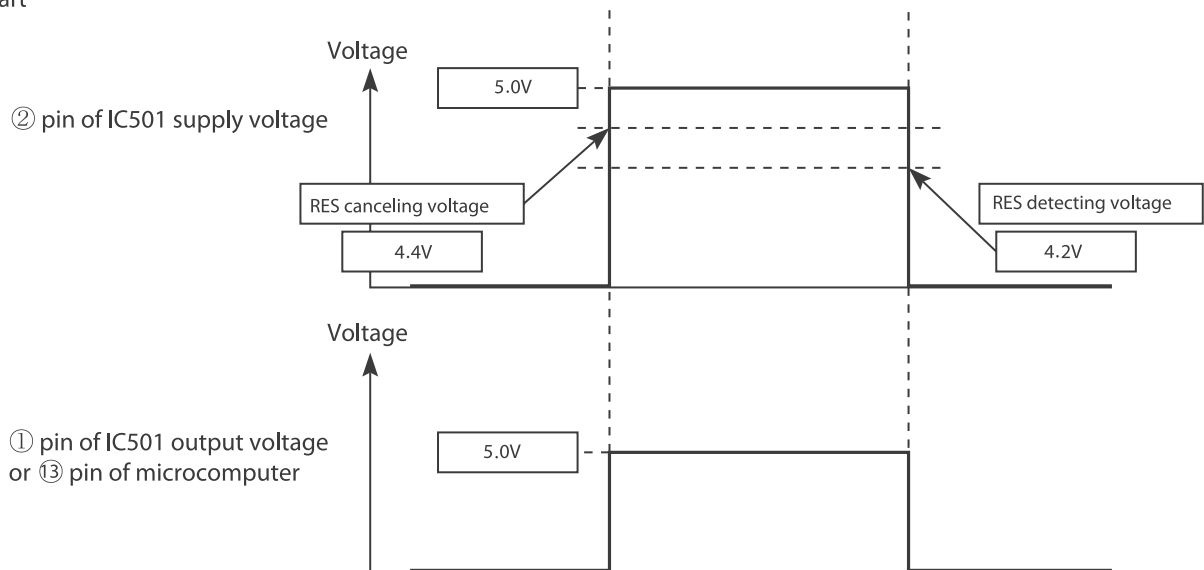

Fig. 3-2
- Low voltage at pin ⑬ resets the microcomputer and Hi activates the microcomputer.
- Waveform of each part when switching ON the power and when shutting down is shown in the Fig. 3-2.
- After switching ON the power, ① pin of IC501 supply voltage and ⑬ pin of microcomputer becomes Hi when DC5V line rises and reaches approximately 4.4V or higher.